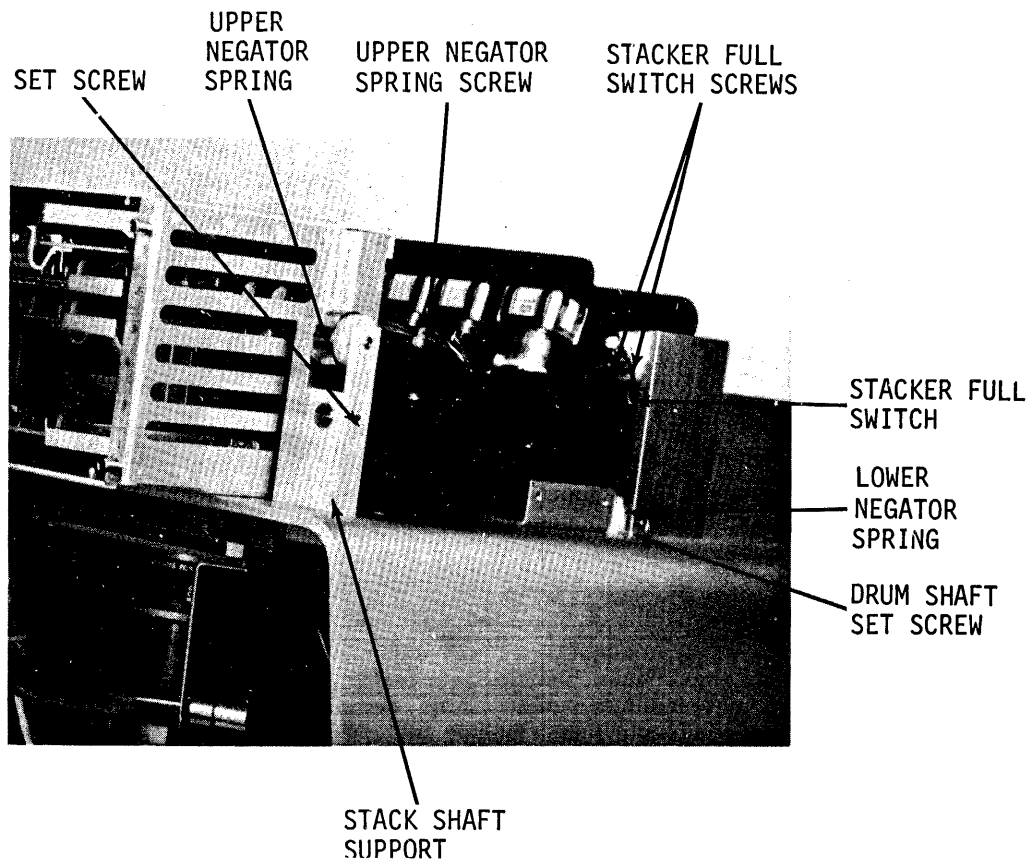

Figure 9-23. Stacker Full Switch Replacement
- d. LOOSEN set screw in rear stacker shaft support, figure 9-23.
- a. Remove upper stacker negator spring screw, figure 9-23.
- b. Remove two Phillips head screws holding stacker full switch, figure 9-23.